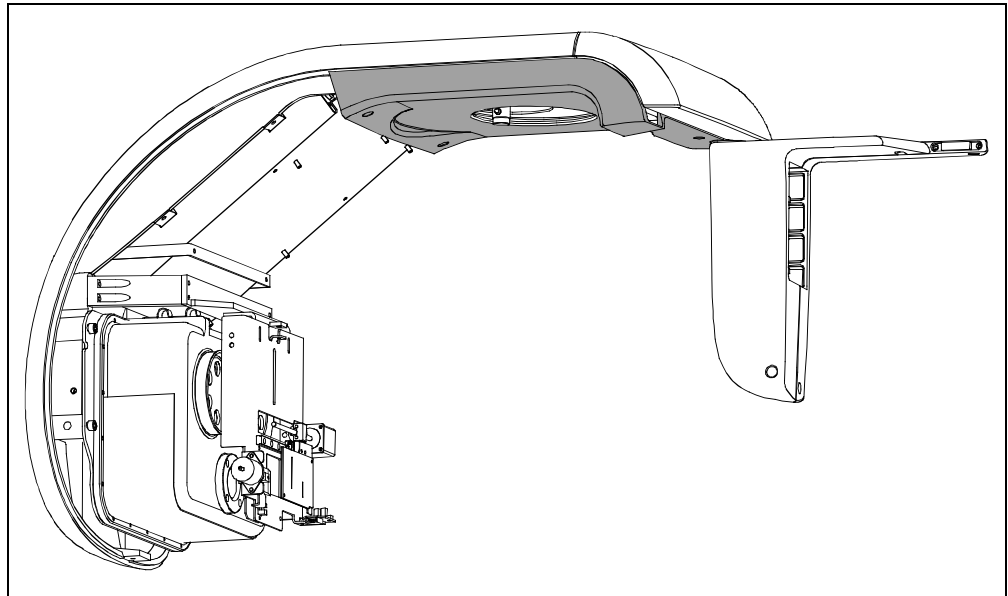

Figure 6-8
9. Open the sensor holder and mount the rotating arm lower cover (Figure 6-8).